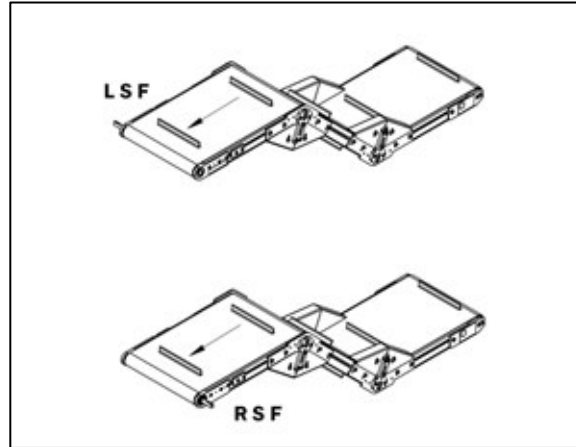

Figure 1
a. Set the conveyor in its operating position, taking care to note its drive location. AS40Z Series conveyors are assembled with the drive pulling as standard, determined by the two drive positions available: LSF or RSF (**Figure 1**).